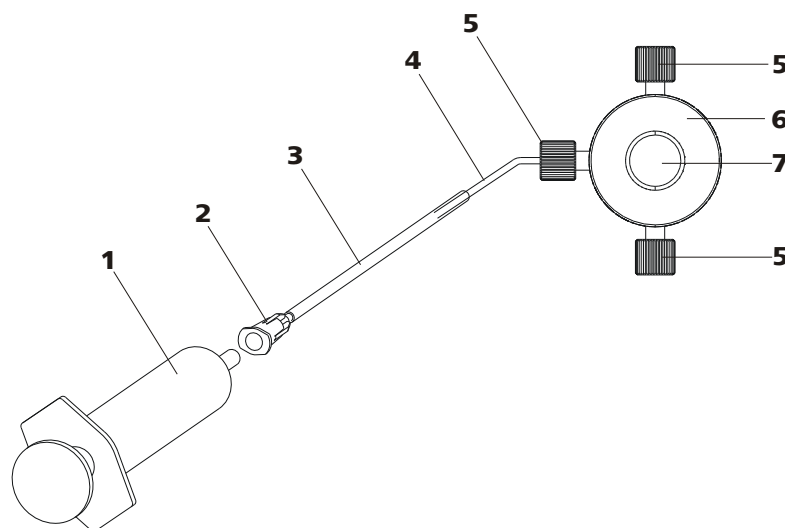

Figure 22 Deaerating the high pressure pump
Deaerate the high pressure pump as follows (see *Figure 22, page 45*):
- Insert syringe (22-**1**) in the Luer connector (22-**2**) of the purging needle (see Figure 22, page 45).